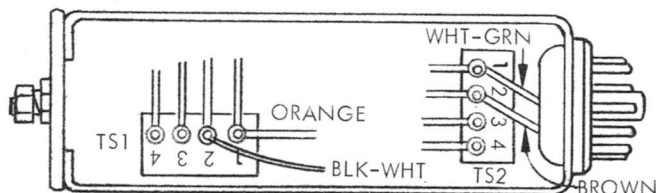

Figure 3
The ALTEC 453B 600/900 Amplifier (24 to 26V dc) is shipped wired for 600 ohm operation. If the amplifier is to be used in 900 ohm facilities, the input and output pair must be removed from terminals 1 and 2 of the terminal strips (TS1 and TS2, Figure 3) and transferred to terminals 3 and 4.
1. Unsolder the orange wire from terminal 1 (TS1, Figure 3) and resolder the wire to terminal 3.
1. Unsolder the green-white wire from terminal 1 (TS2, Figure 3), and resolder it to terminal 3.